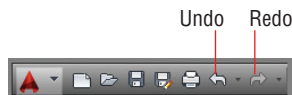

FIGURE 2.13 Undo and Redo
5. Click the Undo arrow on the Quick Access toolbar (see Figure 2.13). The lines you deleted in step 4 reappear.